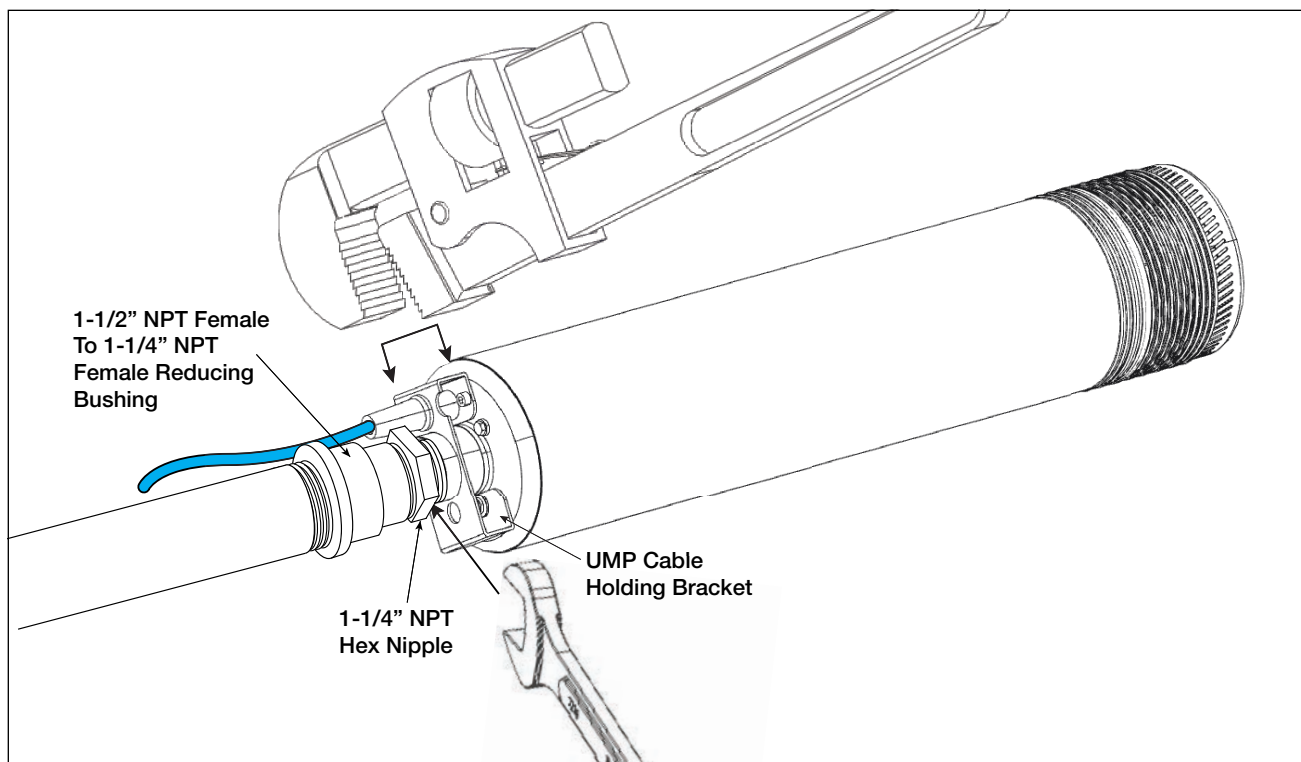

Figure 18. Disconnecting UMP
2. Remove 1-1/4" NPT nipple and 1-1/2" NPT female to 1-1/4" NPT female reducer bushing (See Figure 18).